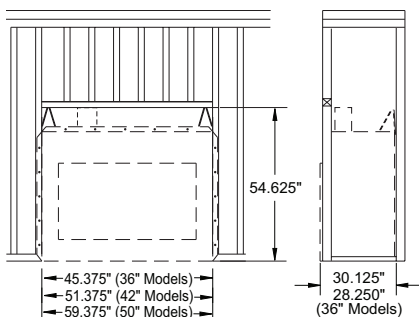
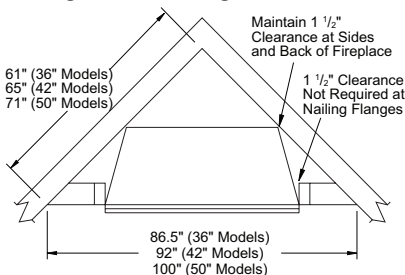

Figure 8 - Framing Dimensions
Figure 9 - Corner Installation
1. Frame in rough opening. The firebox framing should be constructed of 2 x 4 lumber or heavier. Use dimensions and rough opening layout in Figure 8. Adjust framing so that firebox flushes with finished wall surface. If installing in a corner, use dimensions in Figure 9, for rough opening.